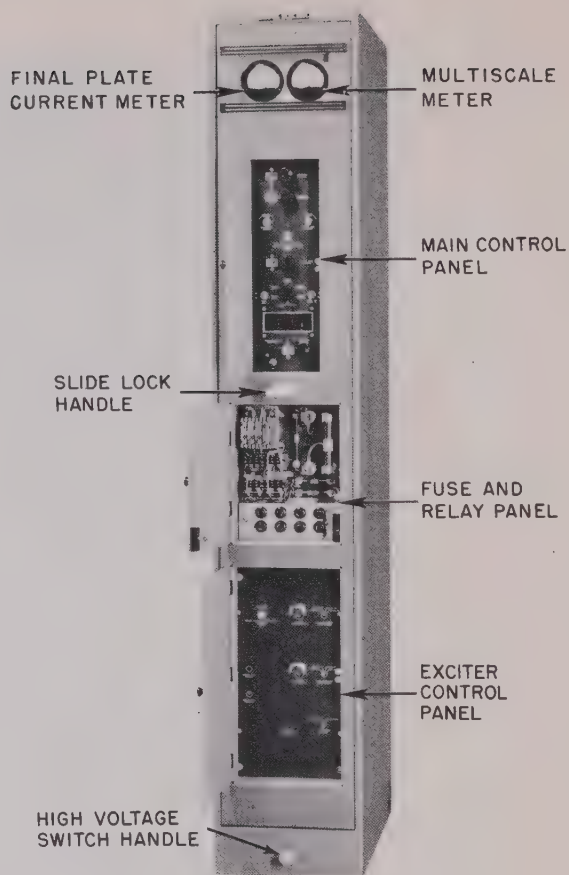

Figure 3. Radio Transmitter MODEL 96D, operating components
(2) The transmitter is assembled in a steel cabinet 73-1/2 inches high, 12-5/16 inches wide, and 27-3/4 inches deep. All the controls and adjustments are accessible at the front of the transmitter (fig. 3). Two ammeters, located at the top front of the transmitter, give visual indication of the current flow through various circuits. All of the transmitter circuit and relay equipment is mounted on a slide which may